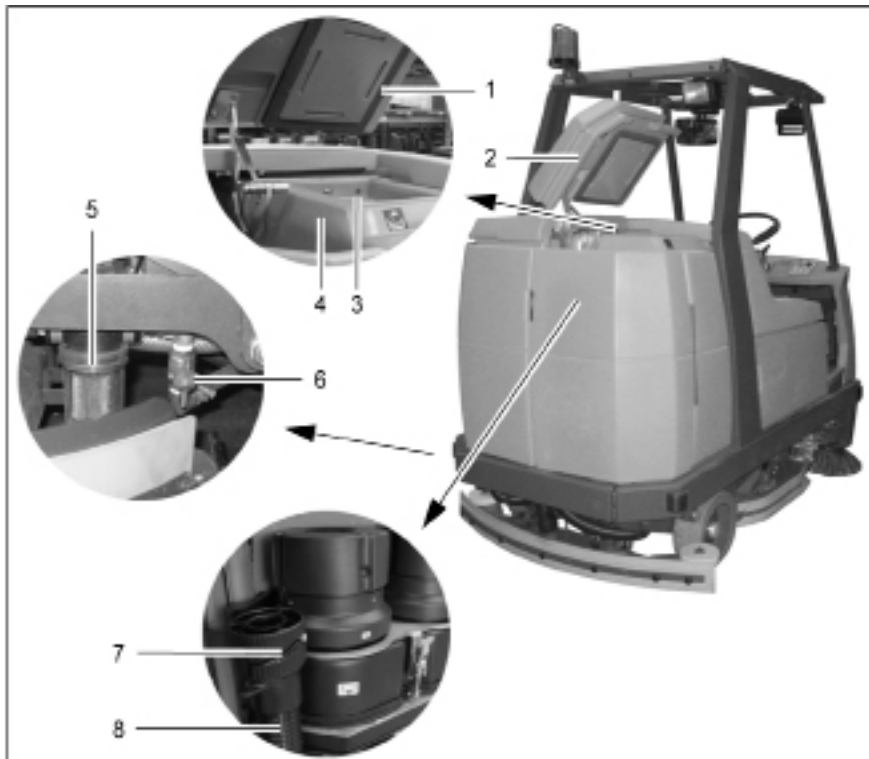

Fig 25
Fill the solution tank (Fig. 25/4) with fresh water and cleaning agent before starting with the work, also refer to Section 3.1.4.
2. Open the tank cap (Fig. 25/2) and lock in place.
3. Detach the solution draining hose (Fig. 25/8) and lower it slowly.
4. Unscrew the cap (Fig. 25/7) to open it. The quantity drained can be regulated by turning the cap and pivoting the cap open fully, if necessary.
- The cap (Fig. 25/7) at the end of the draining hose (Fig. 25/8) should be cleaned at regular intervals.
The solution feed is equipped with a filter (Fig. 25/5) which must be cleaned dirt appears on the container. This is located on the left-hand side of the vehicle at the height of the brushes behind the side panel.
2. Close the ball cock (Fig. 25/6) to prevent solution being supplied from the tank.